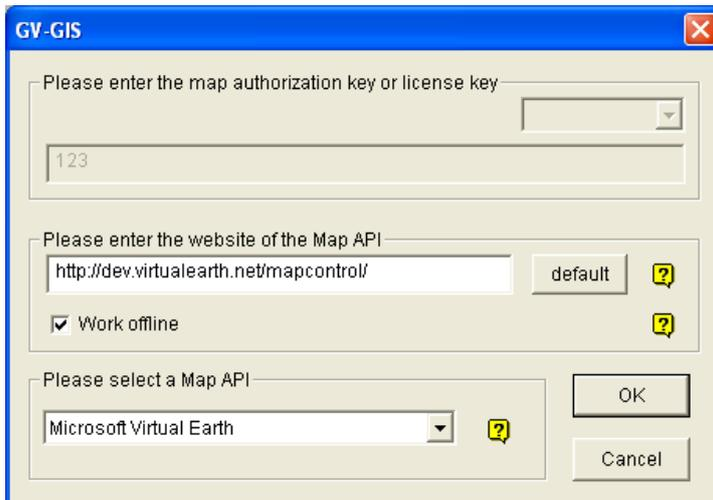

Figure 4-54
1. If you like to use the maps created yourself, overwrite the files at :GV folder\GIShtm-User, and select **User Defined** from the "Please Select a Map API" drop-down list (Figure 4-54).